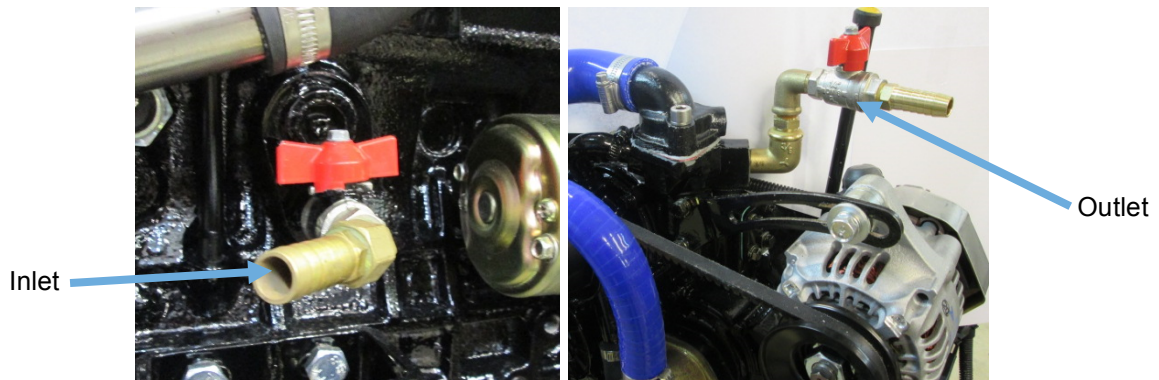

Figure 11: Position of Calorifiers on a River Boat
- The calorifiers are positioned as per (**Figure 11**)